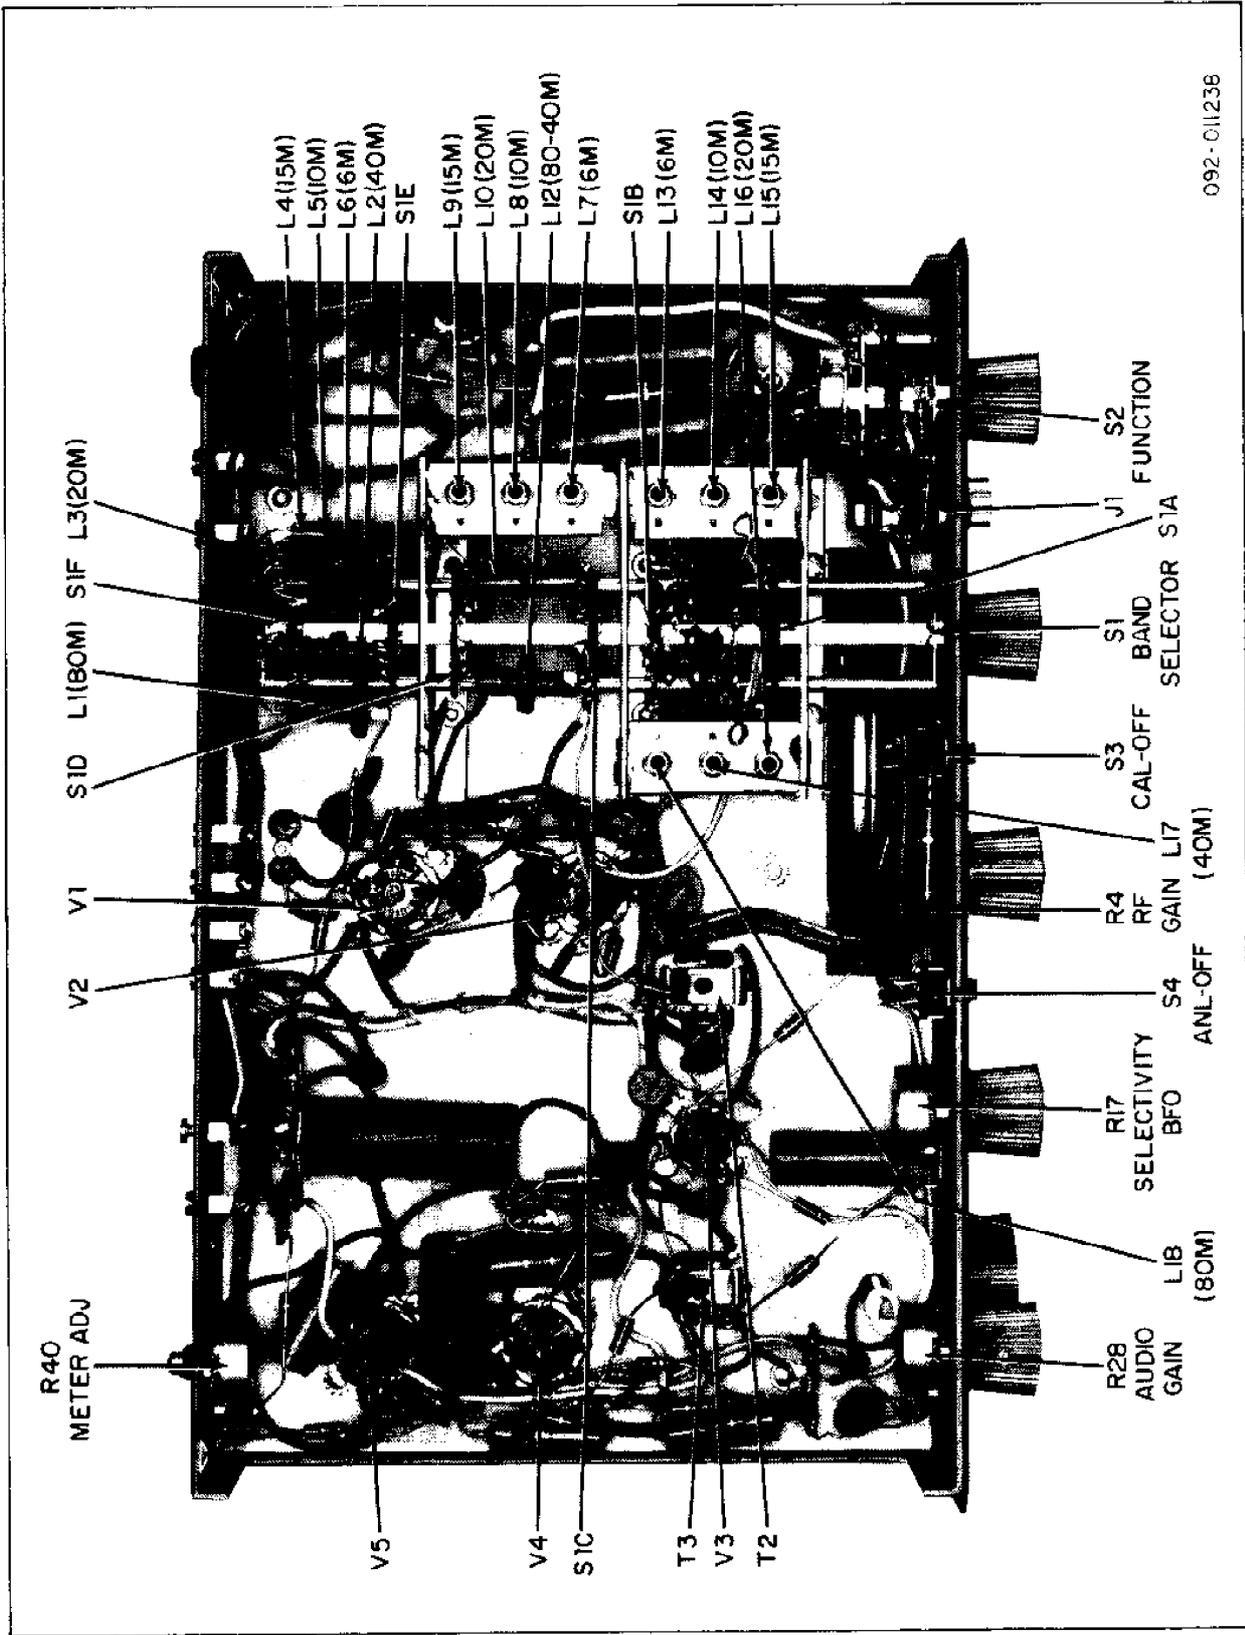

Figure 9. Bottom View Alignments.
on the rear of the chassis (see figure 9) until the carrier level meter reads "O".
- Set the RF GAIN control fully clockwise when adjusting the 15, 10 and 6 meter oscillator coils. Refer to Figure 9 for location of the oscillator coils. All oscillator coils should be adjusted for the loudest zero-beat signal.